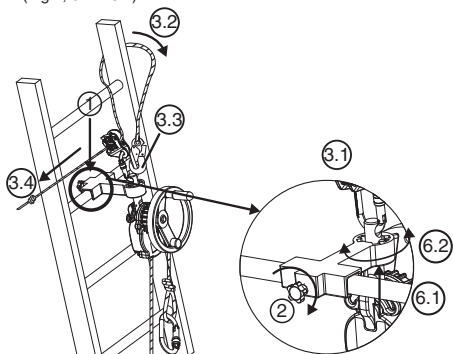

Fig.7
6.3.3 DEROPE™ UP K descender (Fig. 7)
1. Place the small support bracket on the ladder bar in the position required to carry out the rescue operation above the person to be evacuated (Fig.7, 1).
2. Tighten the locking pin located at the back of the support bracket using the clamping knob (Fig.7, 2).
- Secure the connector of the adjustment device LCM 05 in the hole at the top of the fastening pin (Fig.7, 3.1).
- Run the belay lanyard around the ladder bar located above the bracket, going around one of the ladder uprights (Fig.7, 3.2).
- Connect the belay lanyard connector in the connector of the adjustment device LCM 05 (Fig.7, 3.3).
- Tension the belay lanyard by pulling on the free strand (Fig.7, 3.4).
(Fig.7, 6.1 – 6.2).